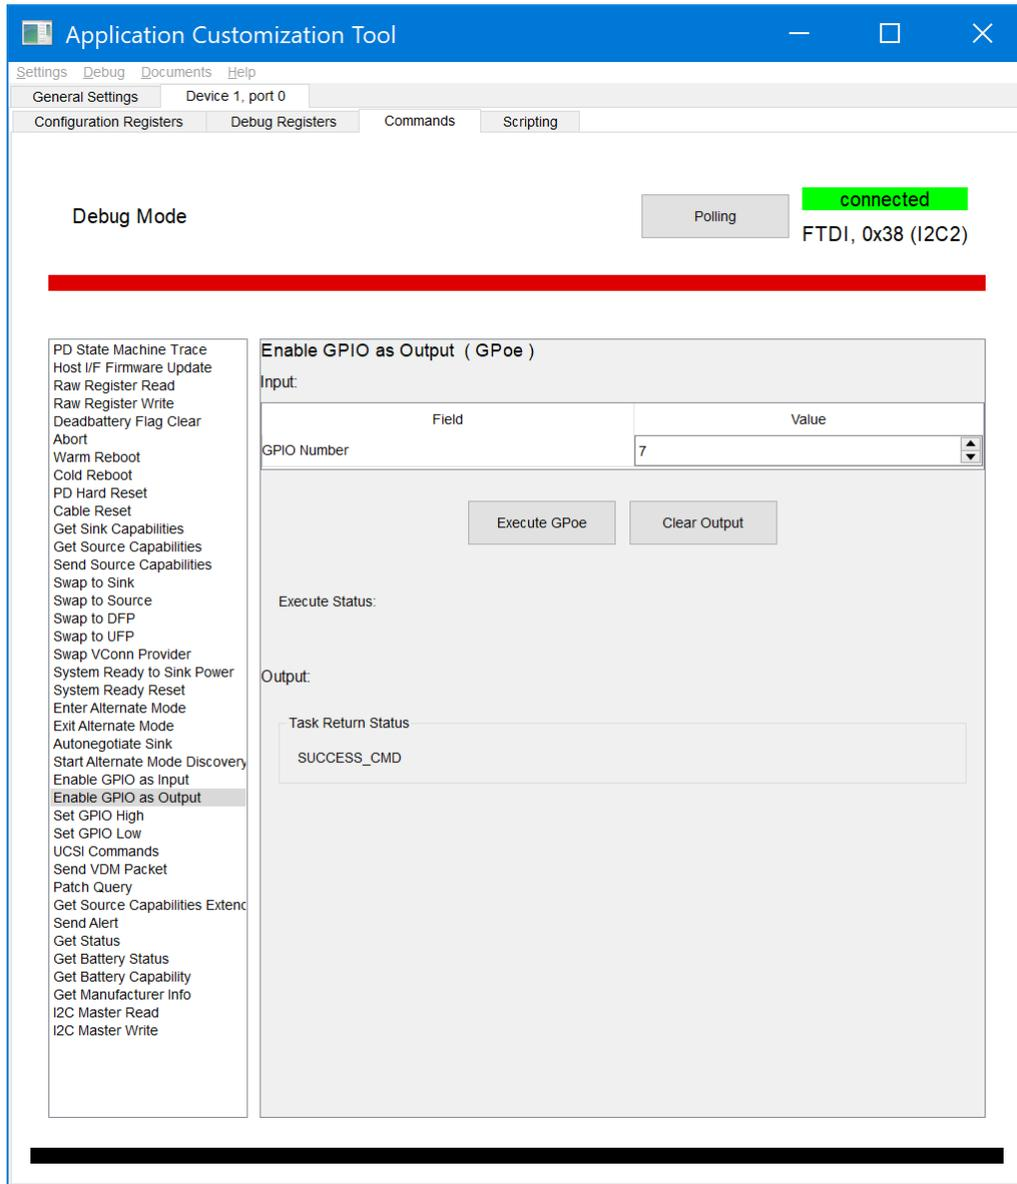

Figure 5-4. Using 'GPoe' 4CC Command
- First send 'GPoe' 4CC command as shown in Figure 5-4.